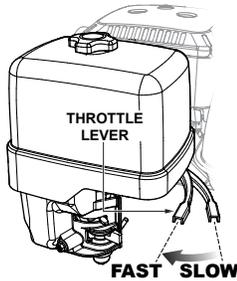

Figure 25. Throttle Lever
- Rotate the **throttle lever** (Figure 25) halfway between **fast** and **slow** for starting. All cutting is done at **full throttle**. The engine governor speed is factory set to ensure optimum blade operating speeds.